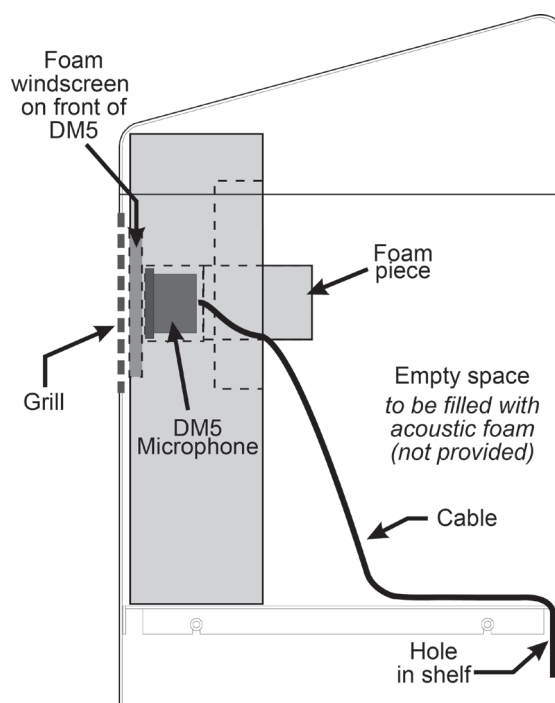

Figure 21. Microphone unit in typical speaker post installation
6. Place the foam windscreen in front of the microphone, positioning it to cover the inside of the speaker grill as shown in **Figure 21**.
7. Place the foam enclosed microphone into the compartment, so the front of the microphone windscreen is **flush against the metal**, centered on the grill, as shown in **Figure 21**.